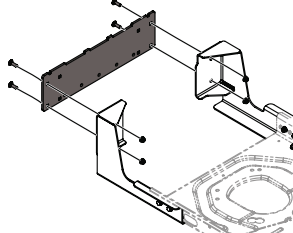

Figure 3
2. Install universal bracket (783-06168) with four bolts (710-0276) and four nuts (712-04063) from hardware pack 689-00567. See Figure 3.